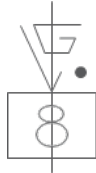

Figure 3
- High torque: “dot” on the **right side** of the “V” (figure 3)